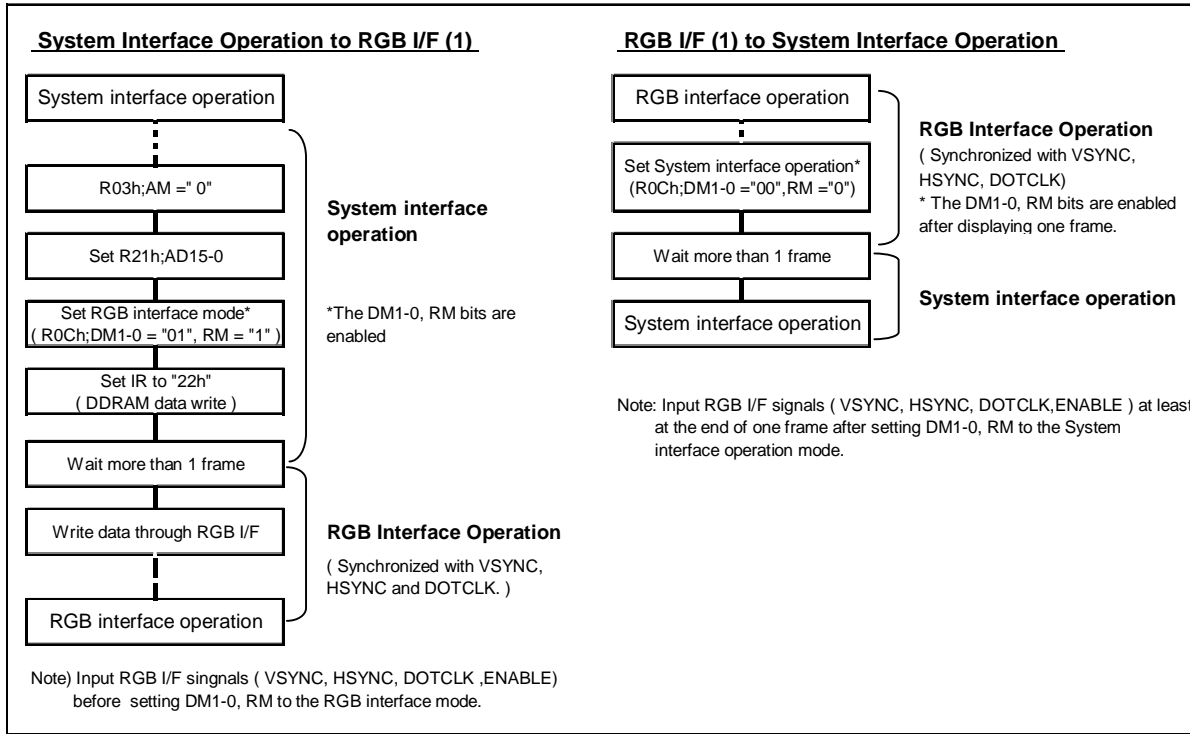
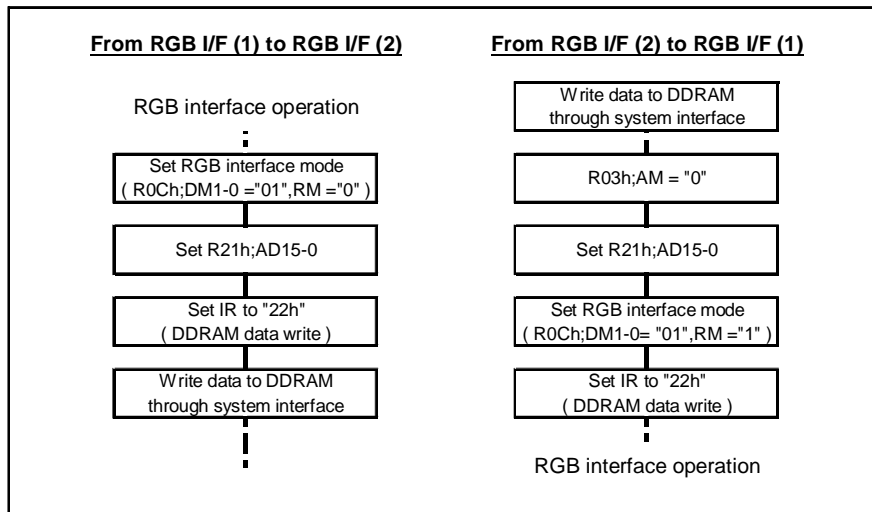

Figure 16-12: System interface/RGB interface mode switching sequence
Figure 16-13: Switching DDRAM access modes (between RGB interface (1) and RGB interface (2) modes)
5. When switching from the system interface mode to the RGB/VSYNC interface mode, or vice versa, follow the sequence on Figure 16-12 and Figure 16-13.